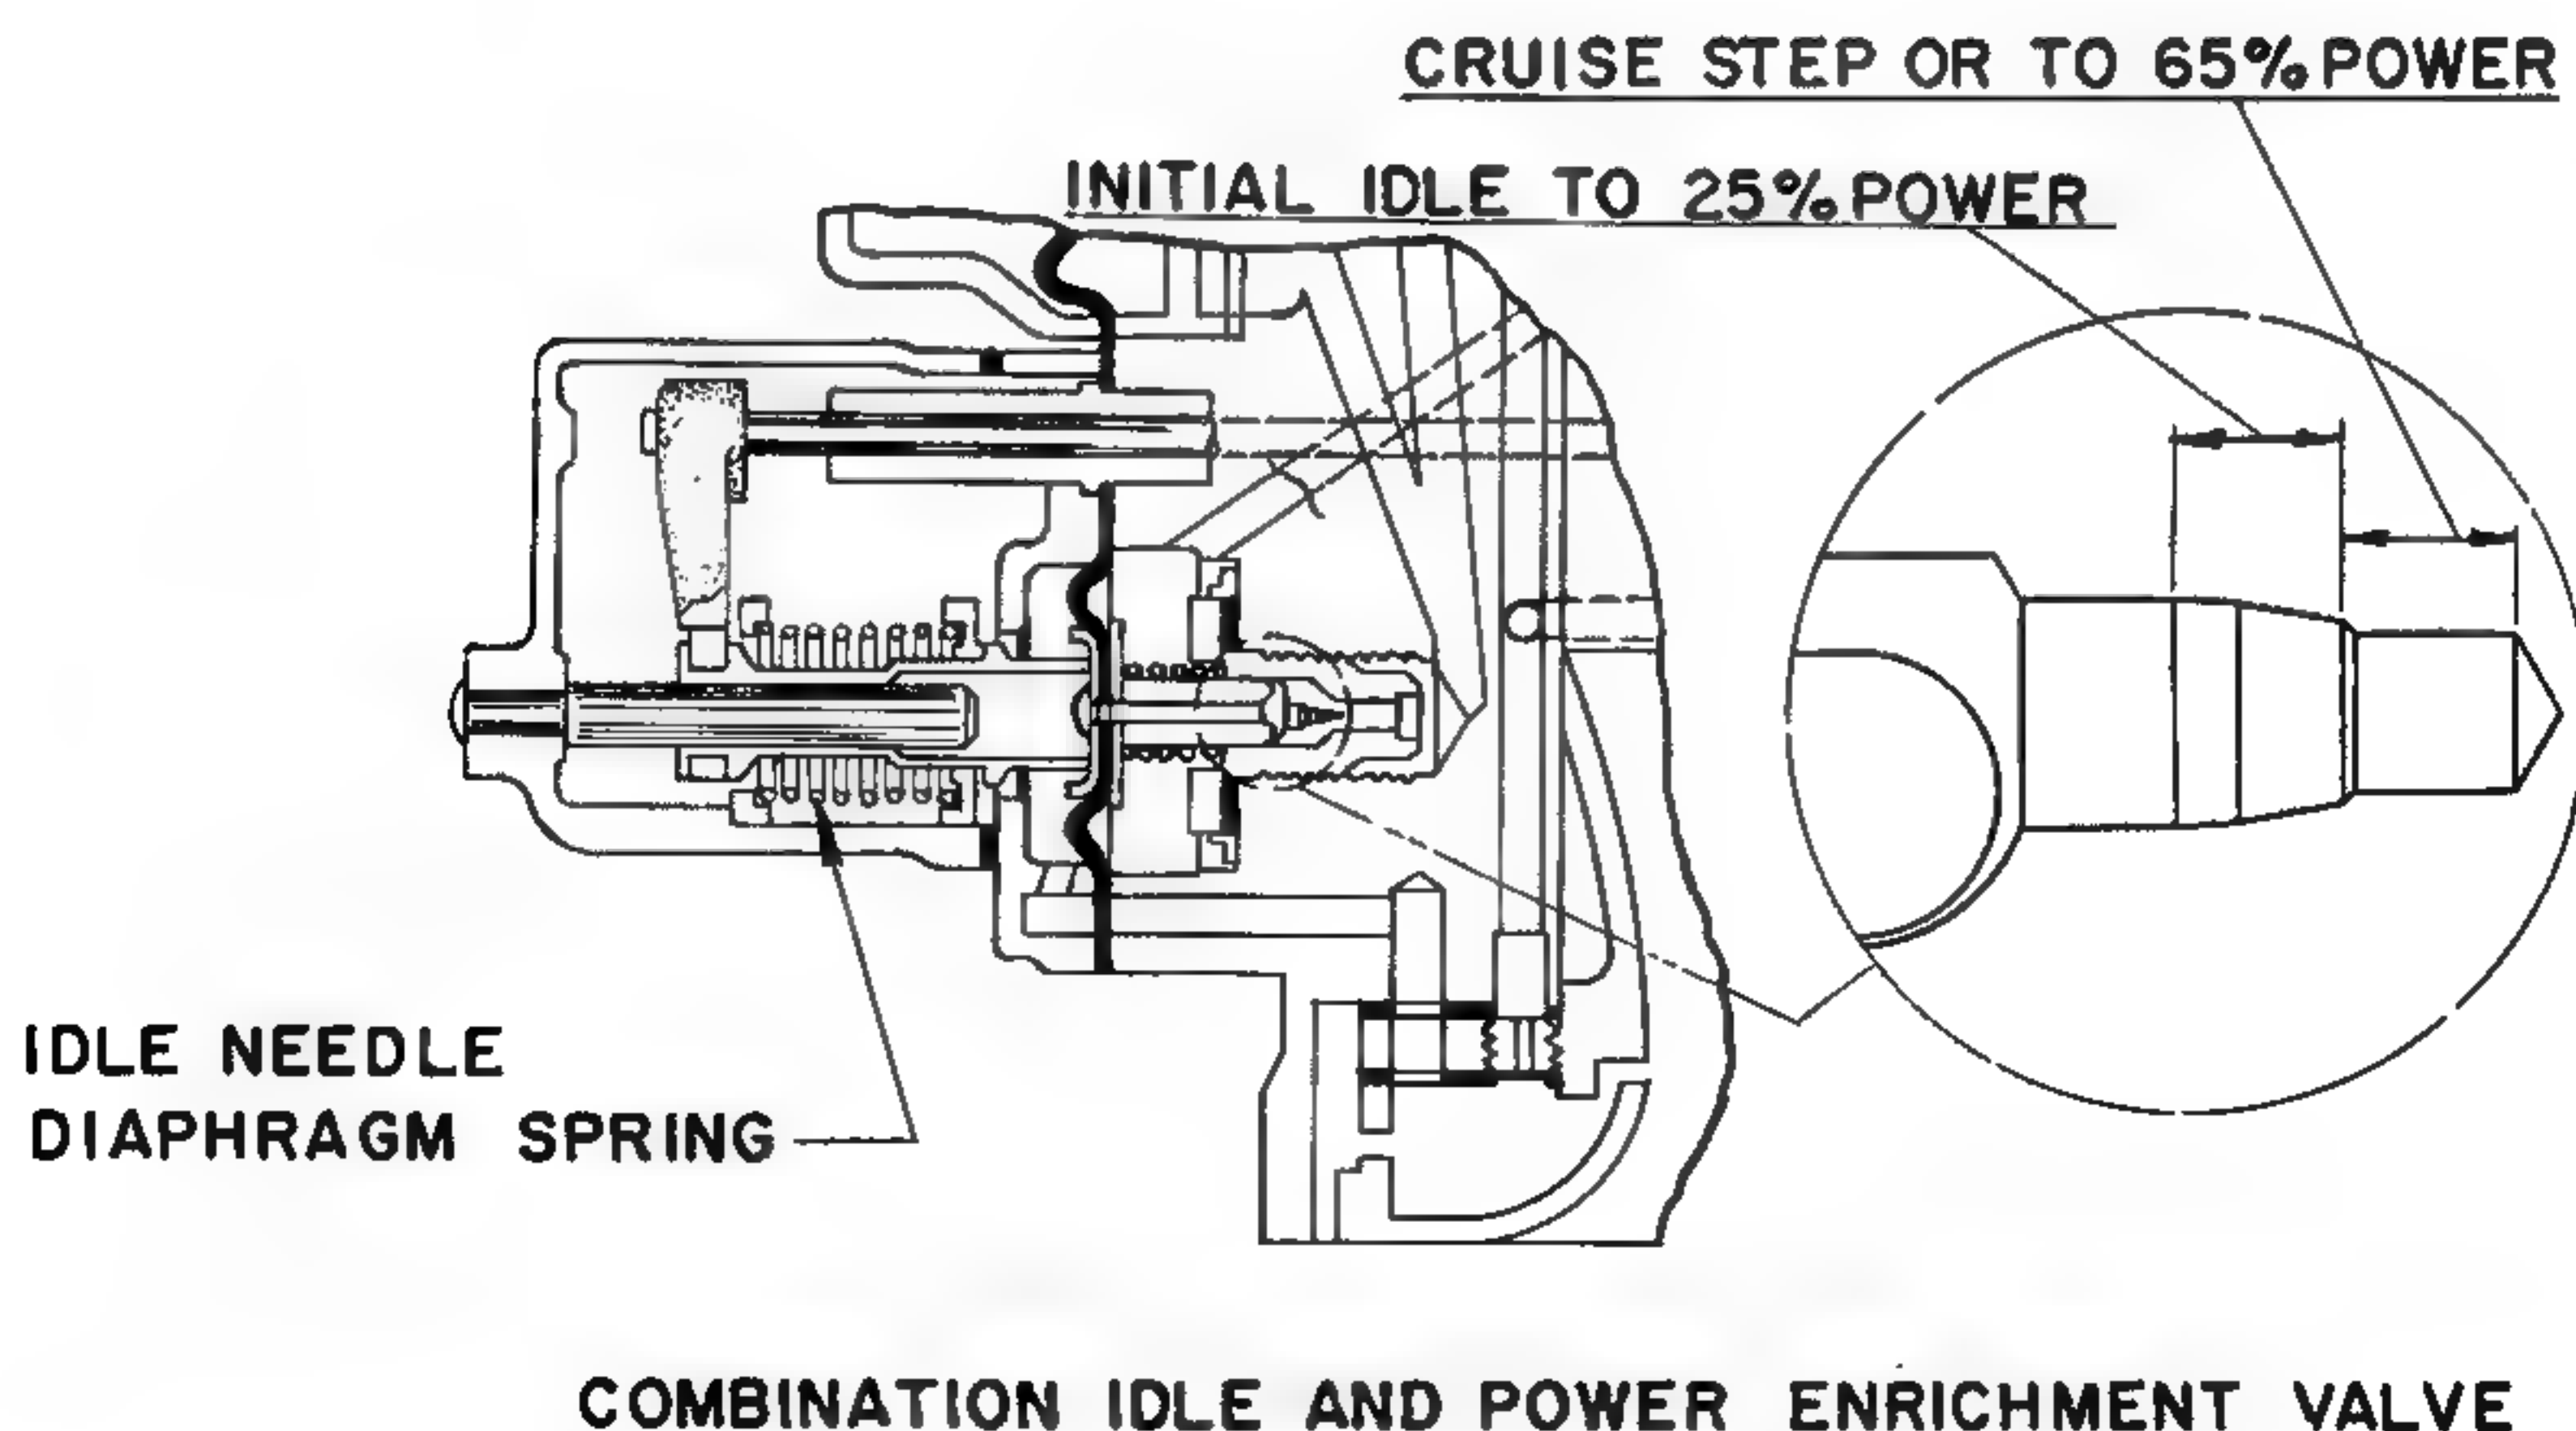

Figure 2. Typical "C" Idle Needle and Power Enrichment Needle
c. On carburetors equipped with the manually controlled power enrichment valve the idle needle is of the "step design" having two major diameters, the larger controls fuel flows to approximately 25% power, the smaller diameter controls fuel flows from the 25% power range to about 65% power, (cruise range). See figures 2 and 3 for details of typical idle needles used in the "PS" type carburetors.